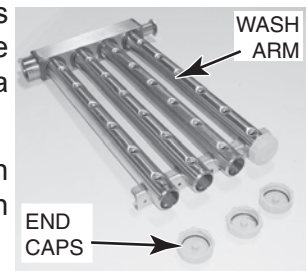

Fig. 29
5. Remove wash arms. Remove wash arm end caps (Fig. 29) and push any nozzle obstructions into the wash arms. Thoroughly flush the wash arms in a sink. Replace the wash arm end caps.